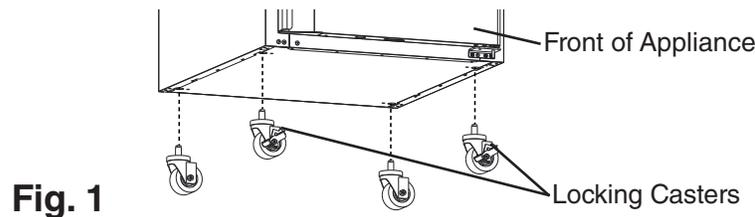

Fig. 1
- a) **Castors:** Attach and tighten the casters to the bottom of the appliance. Locking casters should be attached to the front of the appliance. See Fig. 1.